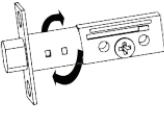

Figure 1b
- Rotate the cylinder cover clockwise (Figure 1b).